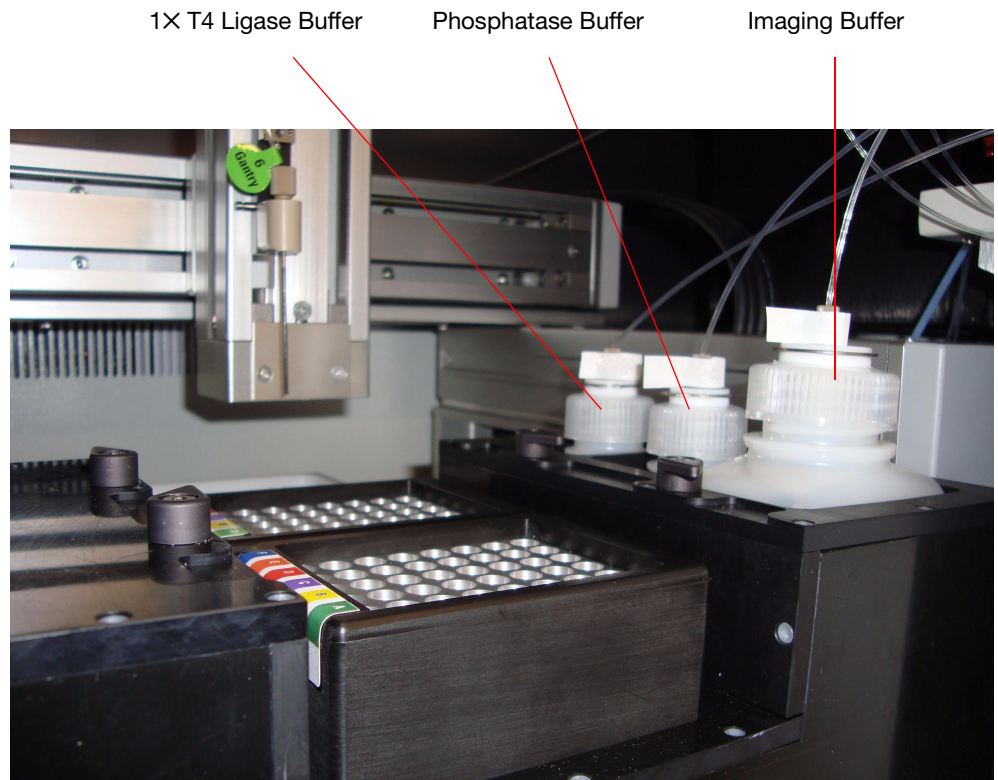

Figure 16 Positions of buffer bottles in the chiller block.
6. Install the prepared Imaging Buffer, prepared 1X T4 Ligase Buffer, and Phosphatase Buffer into the appropriate positions in the chiller block (see Figure 16).